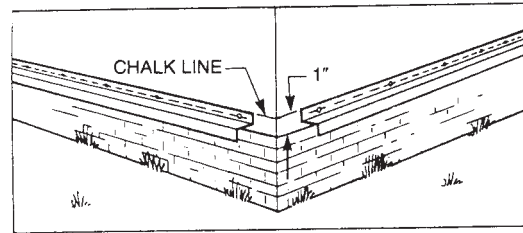

FIG. 23 Installation of Head Flashing
10.2 *Head Flashing*—Determine the lowest point along the area to receive siding and install J-channels or head flashing located so that the lower edge of the nailing flange will be on a level line with that point all along the area to receive siding. Leave ¼ in. (6.4 mm) gap at all corner posts and J-channels. To lap two pieces cut away 1 in. (25.4 mm) of the nailing flange of the overlapping piece and lap ½ in. (12.7 mm). (See Fig. 23.)